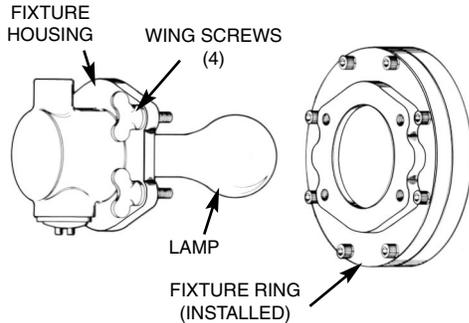

Figure 4.
4. Install 50, 60, 75 or 100 watt, A-21, 120V medium base lamp (user supplied) into lampholder in fixture housing. Insert lamp through fixture ring and secure fixture housing with four wing screws. See Figure 4.